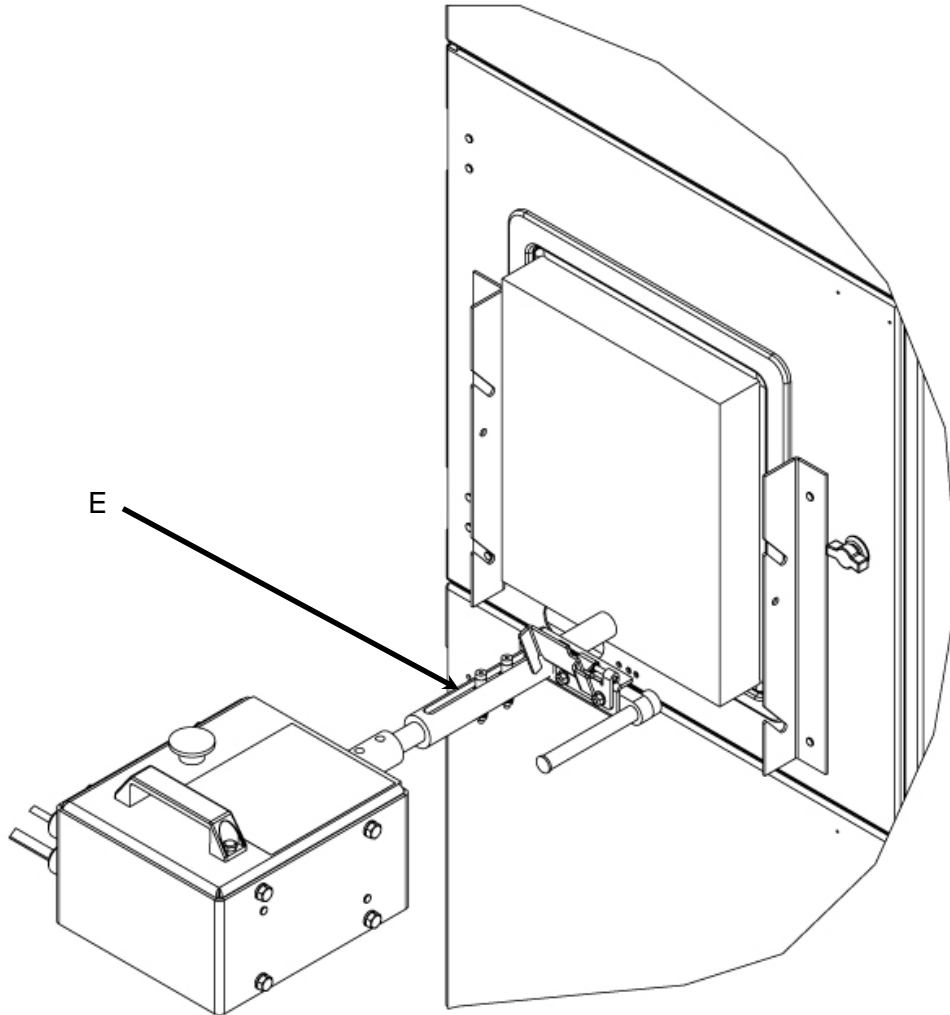

Fig. 2.5
7. Engage the Sliding Coupling with the Breaker Racking Handle by sliding it forward. See Fig.2.5, item E.